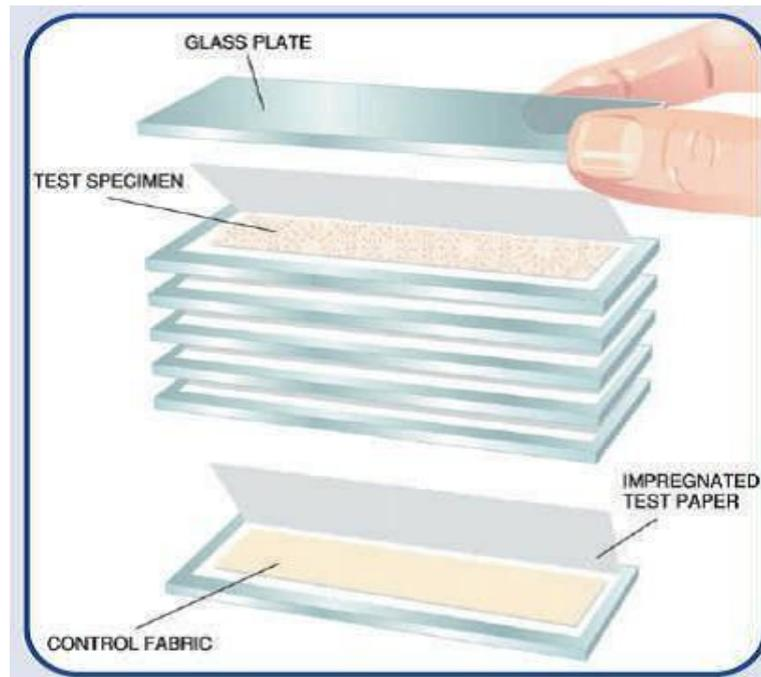

Figure 1 – Package View
- After tightening screws, remove the additional weight (see figure 1).